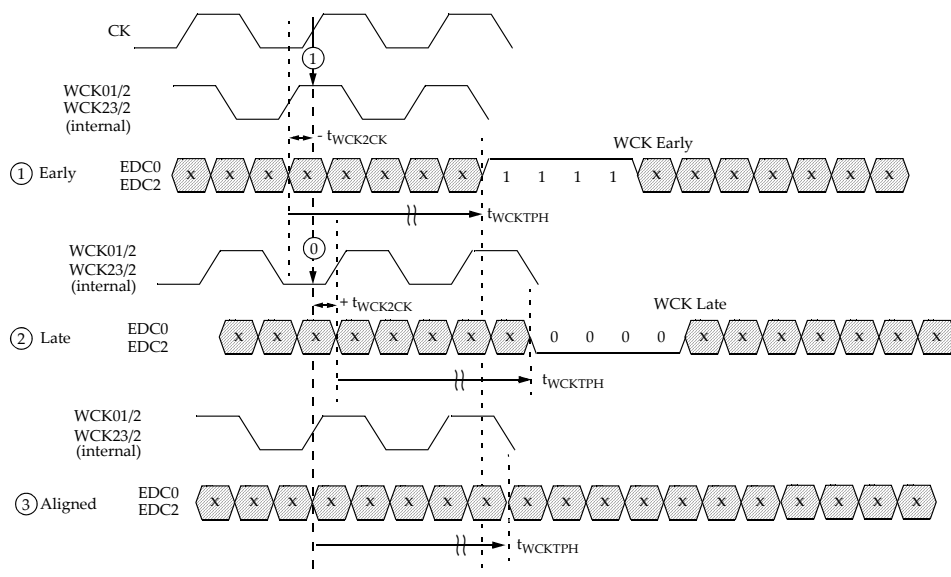

Figure 12: EDC pin Behaviour for WCK2CK Training (assumes '1111' as EDC Hold Pattern)
Figure 12 illustrates how the WCK phase information is derived. The phase detectors (PD) sample the internally divided-by-2 WCK clocks. Only one sample point is shown in the figure for clarity. In reality, when WCK2CK training mode is enabled, a sample will occur every t_{CK} and will be translated to the EDC pins accordingly. If the divided-by-2 WCK clock arrives early, then the EDC pin outputs the EDC hold pattern during the time interval specified in Figure 12. If the divided-by-2 WCK clock arrives late, then the EDC pin outputs the inverted EDC hold pattern during the time interval specified in Figure 12. This is shown in Table 11.